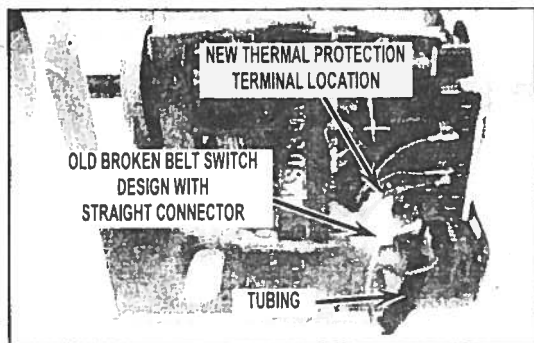
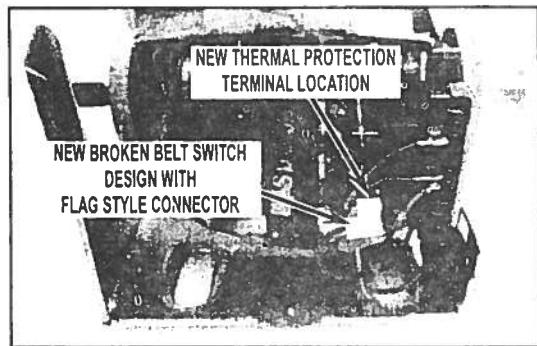

FIGURE 1A
FIGURE 1B
3. Determine which type Broken Belt Switch connector the dryer has. See *Figure 1A* and *Figure 1B*.
**IMPORTANT:** This replacement service motor has a new design Over-Temperature Protection device (Thermal Protector) attached to the centrifugal switch that may differ from the previous design of the motor to be replaced. The new Thermal Protector has a new terminal location which may cause the wire lead from the Broken Belt Switch (with the straight connector) to come in contact with the motor bracket. Included with this motor is a small piece of split loom tubing. This tubing is to be placed on the wire lead from the Broken Belt Switch as shown in *Figure 1A*.
**IMPORTANT:** The Broken Belt Switch has been altered on newer motor models. If this replacement motor is to be replaced on one of these models, the tubing will not be required. Refer to *Figure 1B* showing the new design and verify that the wire leads will not come in contact with the motor bracket before discarding the tubing. Note the orientation of the flag connector attached to the new Thermal Protector terminal location.
4. Replace Motor, attach tubing supplied in kit if the wire lead from the Broken Belt Switch has a straight connector. See *Figure 1A*.